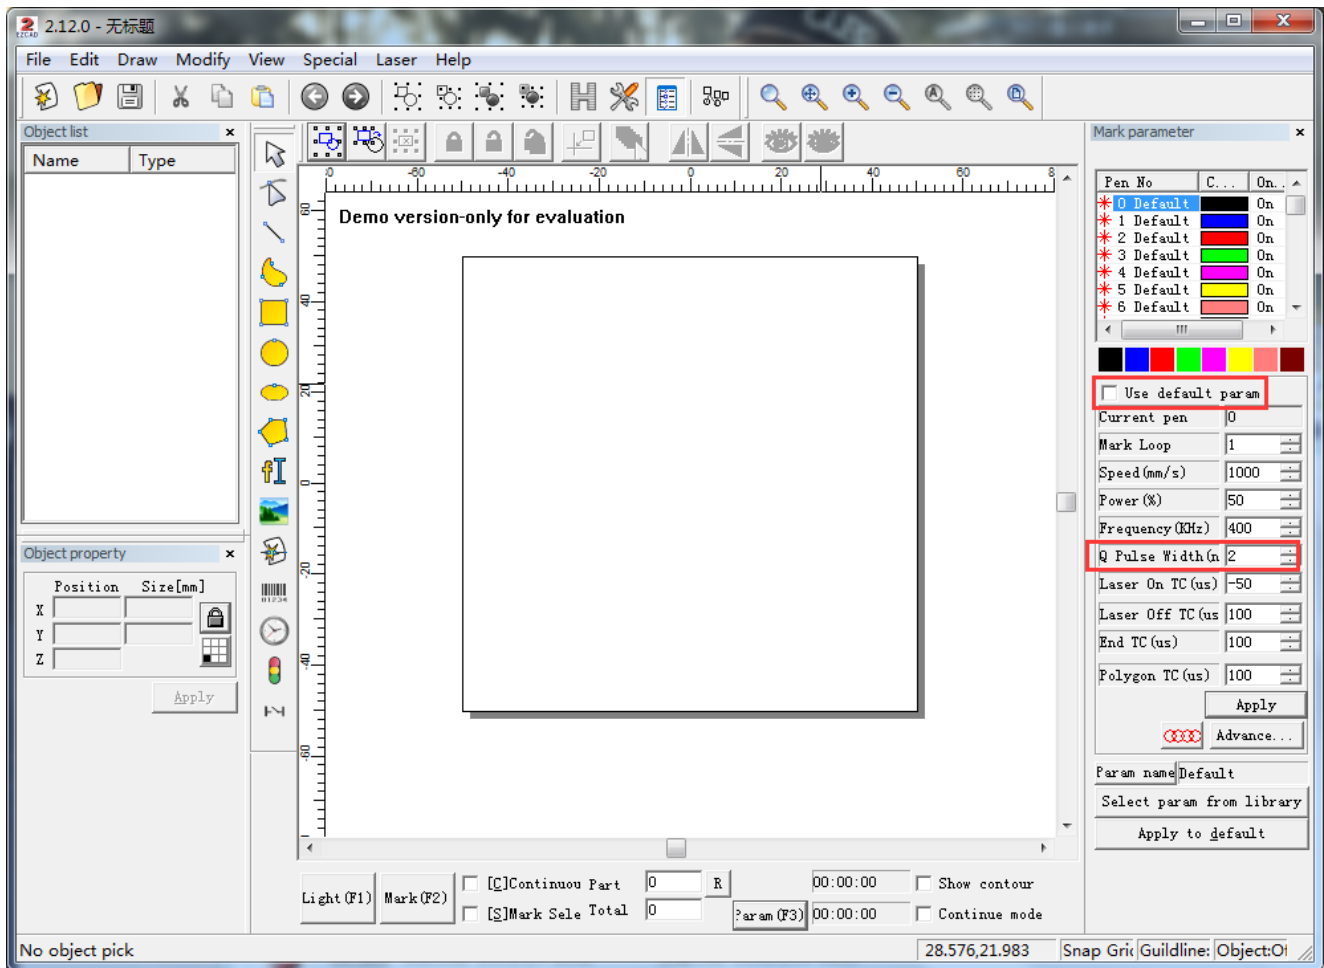

Figure 4
(5) Back to the main interface. Uncheck Use Default param and adjust pulse width of YDFLP-M Series Laser in Q Pulse Width, as shown in Figure 4.